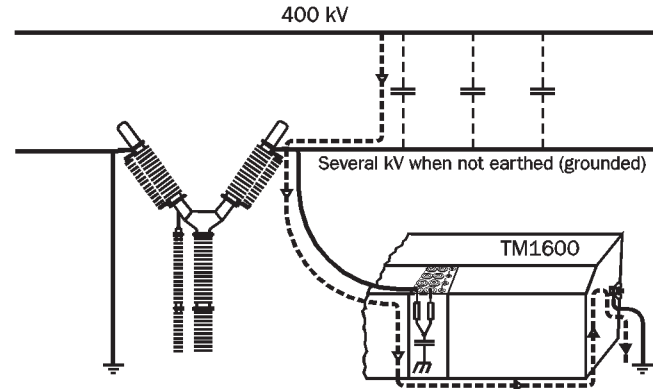

Figure 5.1.
- The earth current, capacitively coupled from the surrounding high-voltage wires, through one timing input must not exceed 15 mA. See Figure 5.1. Two or more timing channels connected in parallel can handle higher currents.